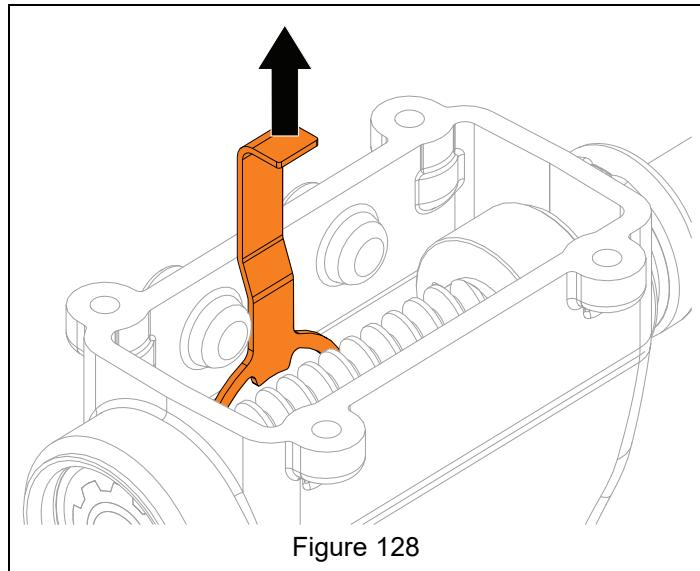

Figure 128
6. Remove bushing retainer from gearcase. See Figure 128.